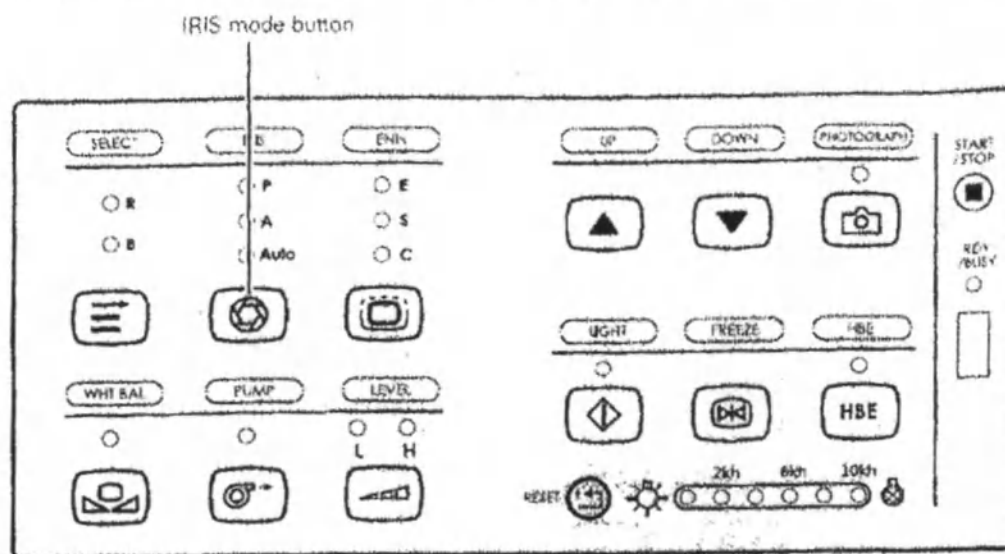

Рис. 11.
1. Press the IRIS mode button or the F2 key on the keyboard to select the IRIS mode (exposure control method) (see Figure 11). When you click on the IRIS mode button, IRIS mode switches between "A" (average), "P" (peak) and Auto (automatic). Indicators reflect the current status of IRIS mode. If mode A is selected, exposure is controlled based on the average brightness of the field. If